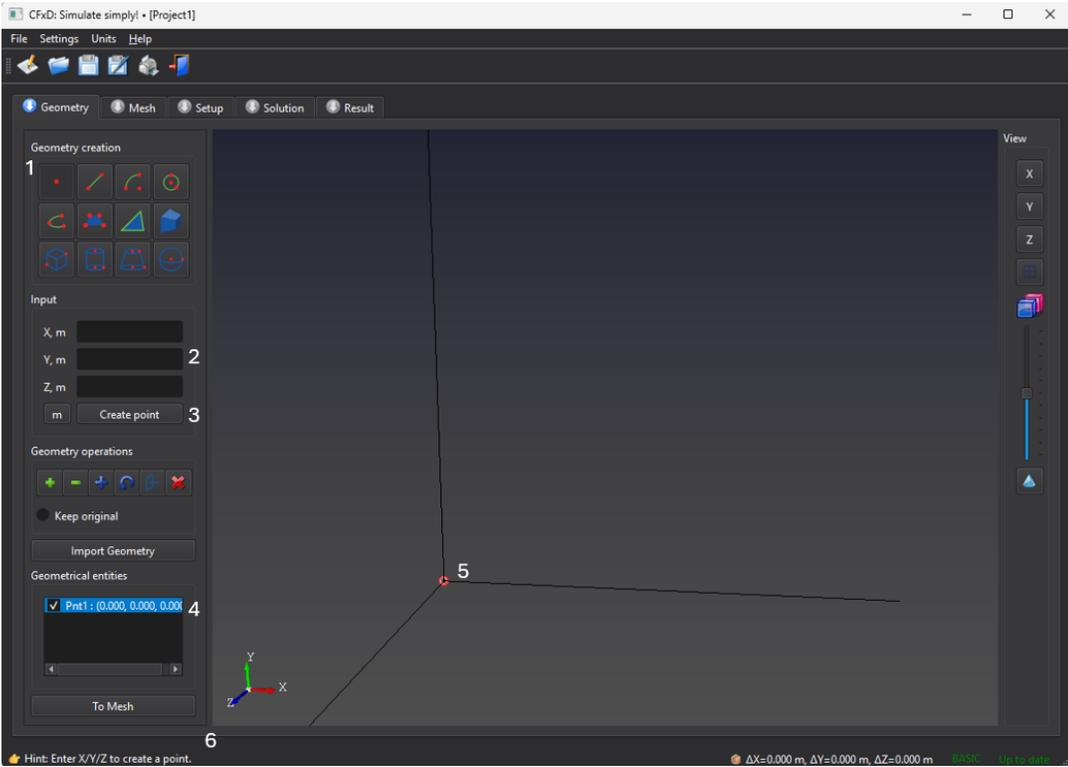

Figure 1. Point creation.
Point creation is shown in Figure 1. In the **Geometry creation** panel, select **Create point** (1). Enter the point's coordinates in **Coordinates input** panel (2). The empty input will be automatically recognized as 0.0. Generate a point with **Create point** button (3). Any created